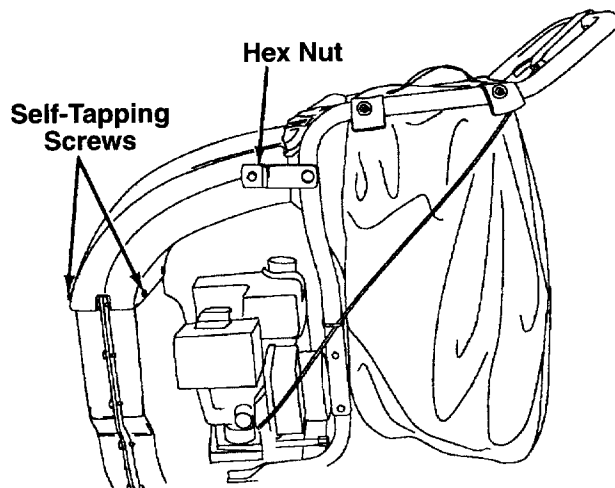

Figure 12
3. Remove the four self-tapping screws from the bottom of the discharge chute, and the hex bolt, flat washer and hex nut from the top. Remove the discharge chute assembly. See Figure 12.